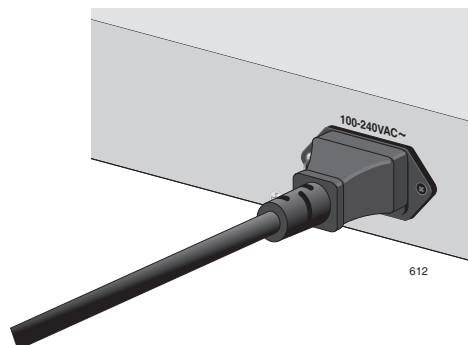

Figure 13. Connecting the AC Power Connector to Switch
1. Apply AC power to the switch by plugging the power cord into the AC power connector on the back panel of the unit, as illustrated in Figure 13.